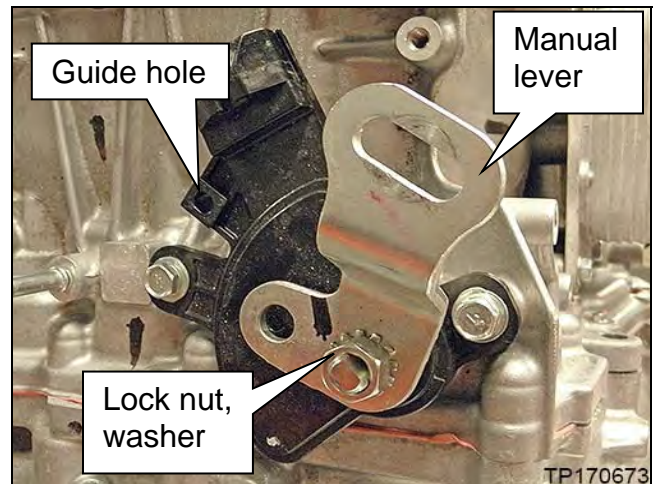

Figure 1V
- Alignment pin will insert into guide hole in the transmission range switch (Figure 1V).